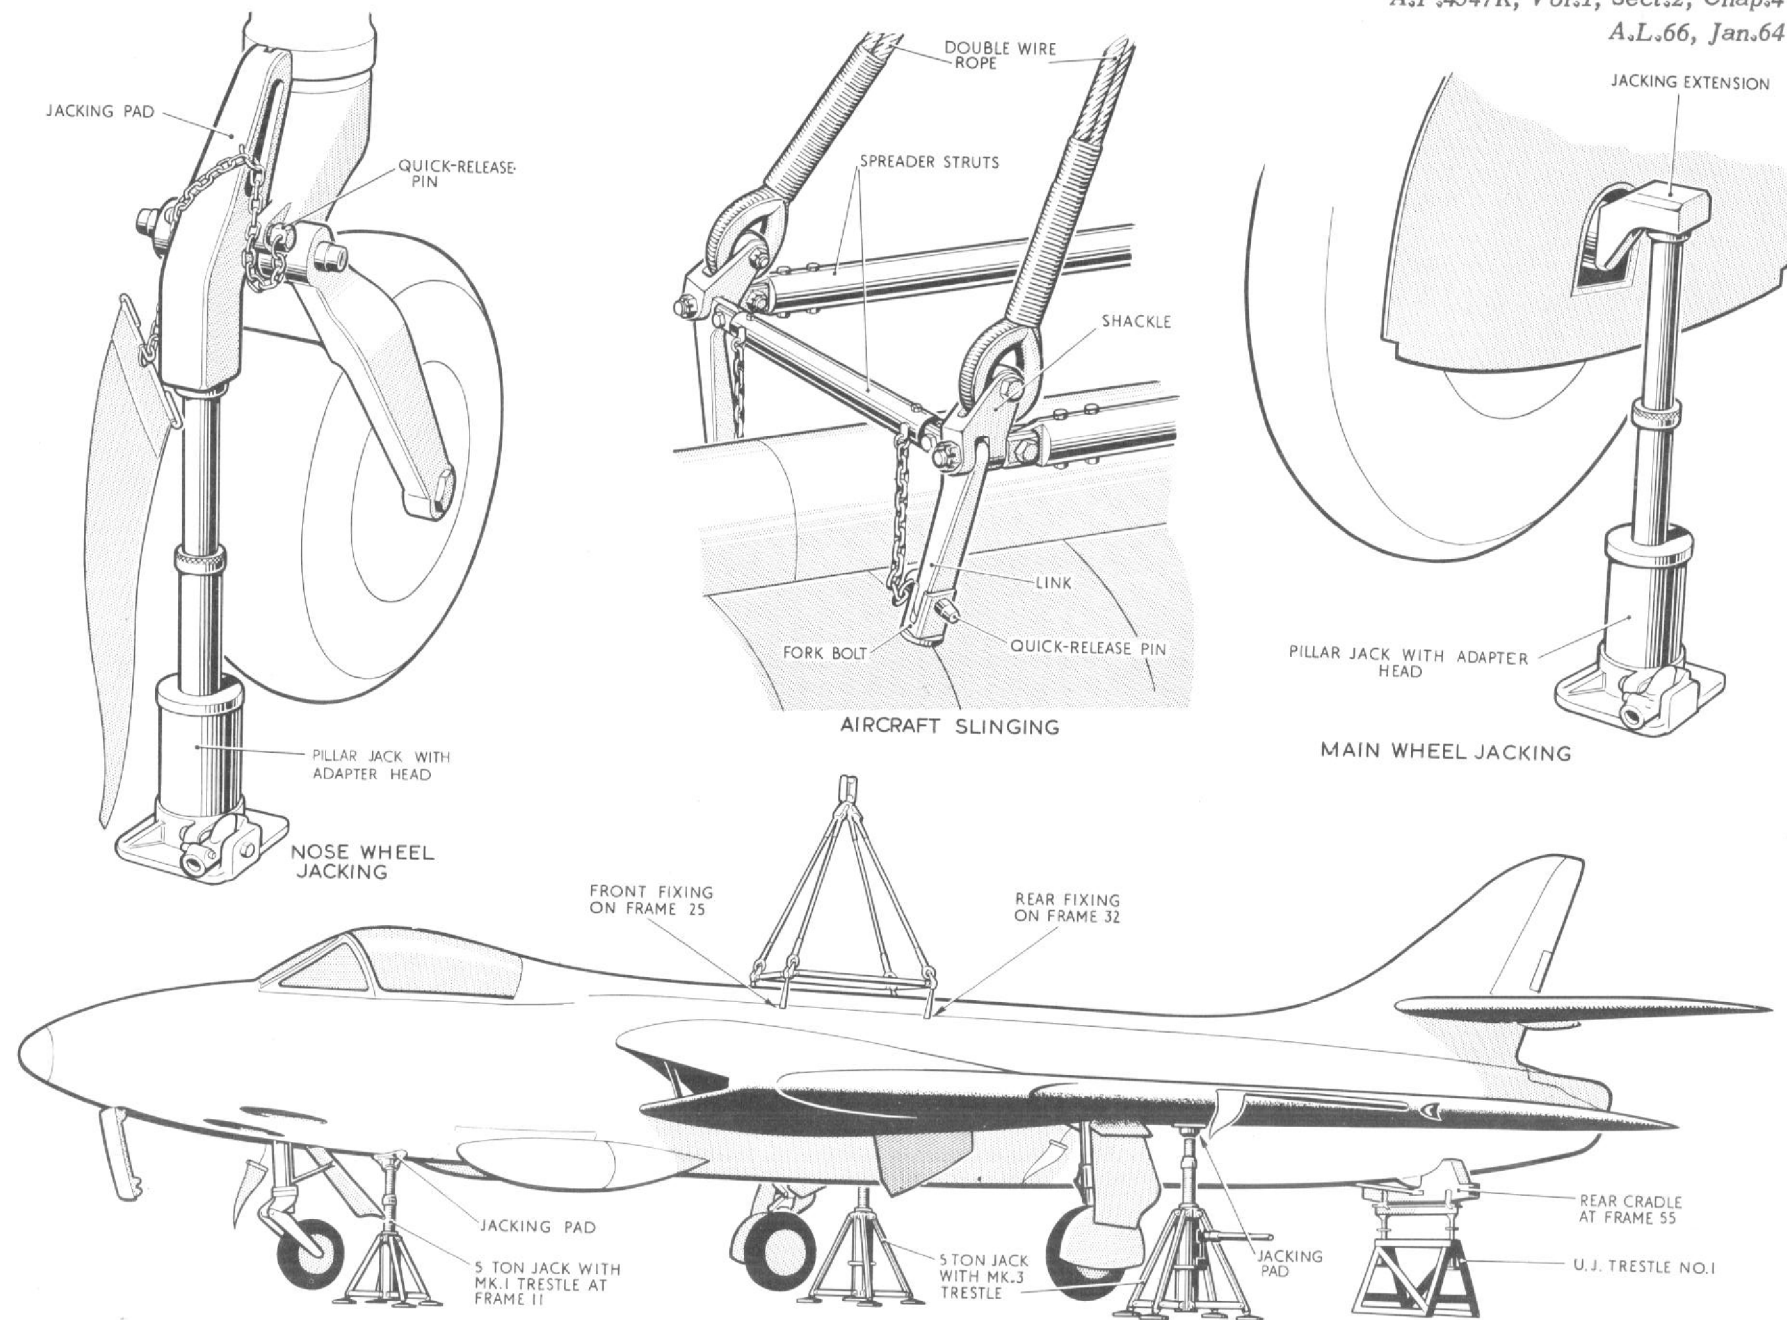

Fig.2. Jacking, trestling and slinging
- (1) Jack up the aircraft (fig.2) and retract the alighting gear.
- (2) Position the component trestles to fully support the aircraft.
- (3) Remove the outer wings (Sect.3, Chap.2) after removing any external stores which may be fitted.